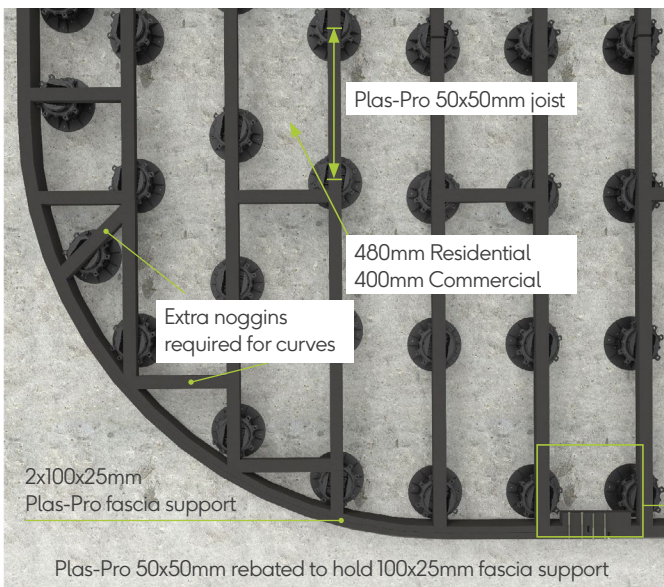

Fig. 33 - Brick bond noggins
- a. Noggins should be set to a brick bond pattern at 1200mm centres ± 100 mm. (see page 33) fig. 33
- c. Curved frames will require extra noggins: see fig. 33